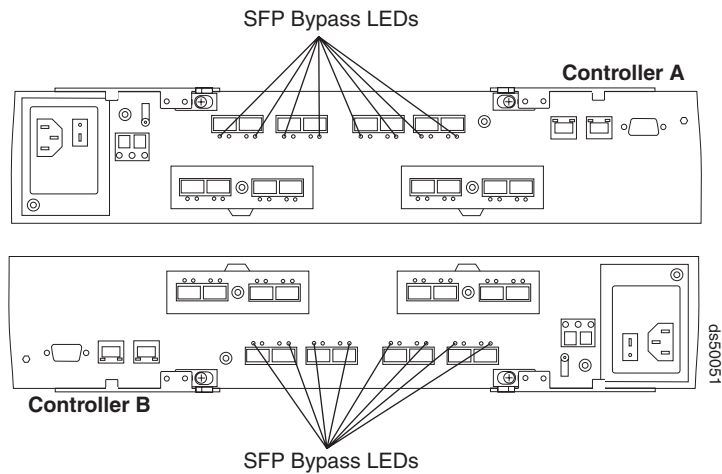

Figure 124. Needs Attention and SFP Model Bypass LEDs
3. Locate the failed SFP module by checking the SFP Bypass LED and Needs Attention LED on the controllers. If a fault is detected, the LEDs are lit. Figure 124 on page 196 shows the location of the controller SFP Bypass LED and Needs Attention LED on the controller.